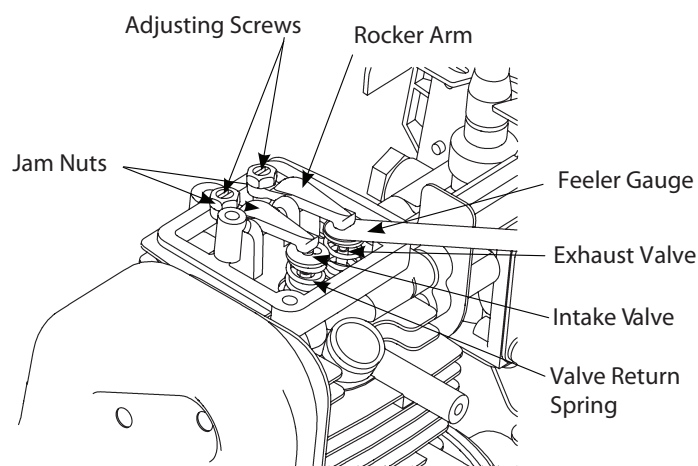

Fig. 28
9. Slide a feeler gage between the rocker arm and the valve return spring. Measure the distance between the rocker arm and valve stem (Fig. 28). Take care to only measure the free play. It is very easy to insert too thick a feeler gauge and accidentally depress the valve and valve return spring. Measure both the intake and exhaust valve distances.